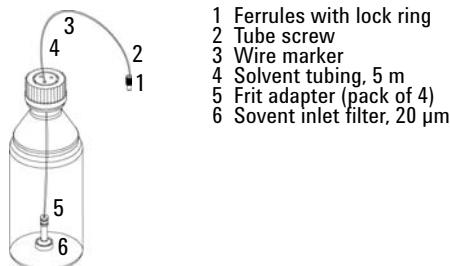

Figure 4 Bottle Head Assembly and Solvent Bottle
- 8 Connect the Bottle Head Assembly connector (see Figure 4 on page 40 Item 1+2) to: